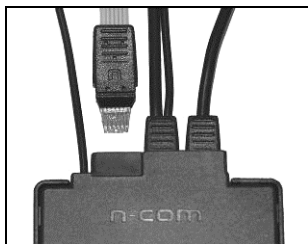

Fig. 9
- Line up the keypad flex connector to the e-box making sure that the letter "n" is pointing as shown in Fig. 9.
N.B. If the system does not work, remove the flex and repeat the previous operation, making sure that the "n" is positioned as in Fig. 9.